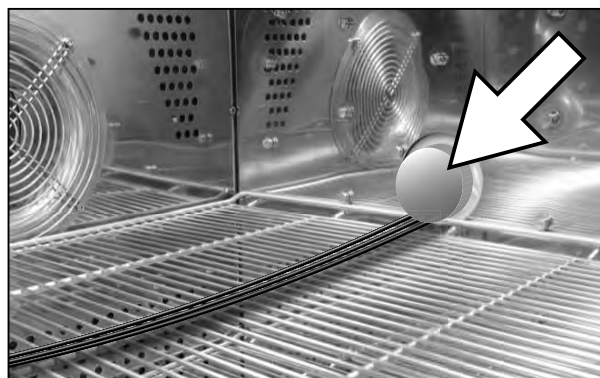

Fig. 18 Cable feed-through with plugs in the right-hand side of the appliance
- Switch on appliance by pressing the main switch on the front of the appliance (see Fig. 18 on page 27).
4. Check whether the silicone plugs have been inserted into the feed-through on the right side of the appliance and if the seal is tight (see Fig. 18 on page 26).
The pressure compensation can be accelerated considerably by removing the silicone plugs (Fig. 18 on page 26).
For test samples which require wires during the test (for power supply or for measuring purposes), the test chamber is equipped with a cable feed-through on the right-hand side (Fig. 18, see also page 10).
Pull out the silicone plugs if they are plugged in (Fig. 18), and push the wires into the interior of the chamber. Then re-insert the plugs and press them tight, so that no heat/humidity can escape from inside the chamber through the feed-through.